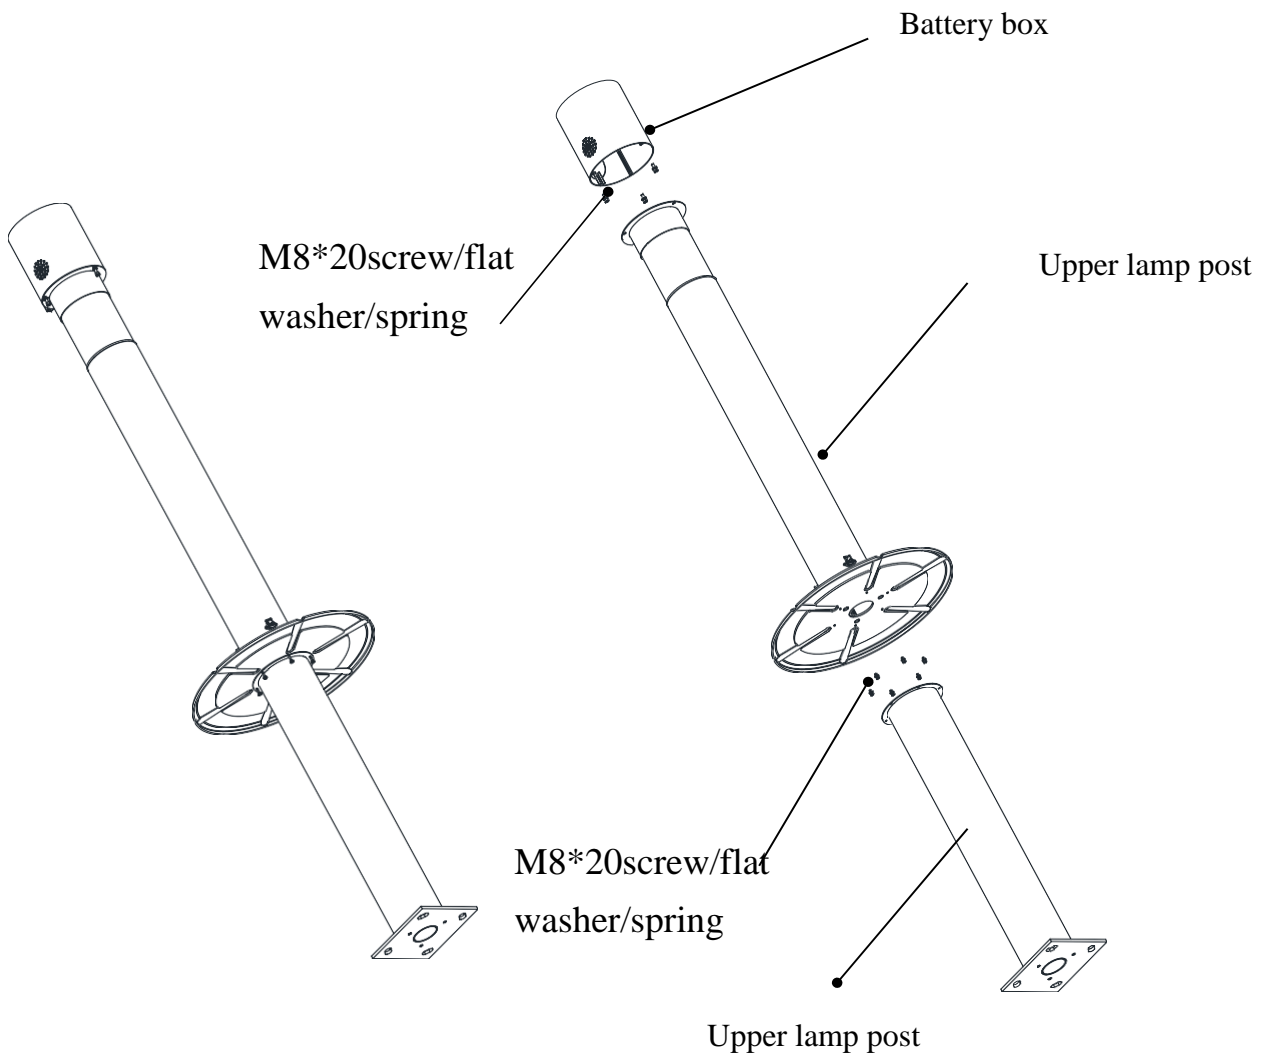

**Figure 2**
① Make sure that the tray hole and the upper lamp post are level, then lock them with 3pcs M8 countersink. See figure 2